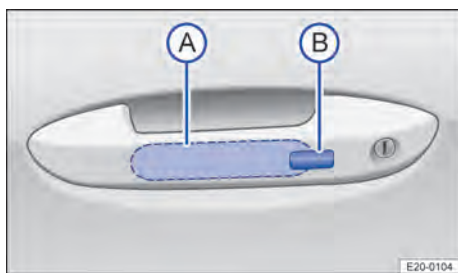

Fig. 54 In the door handle: sensors.
1. Touch the sensor → Fig. 54 Ⓐ on the inside of the door handle.
2. Touch the sensor → Fig. 54 Ⓑ on the outside of the door handle.
2. Touch the sensor on the outside of the door handle once within 5 seconds → Fig. 54 . Do not reach into the door handle.
1. Place a finger on the sensor of the driver or front passenger door handle for a few seconds → Fig. 54.